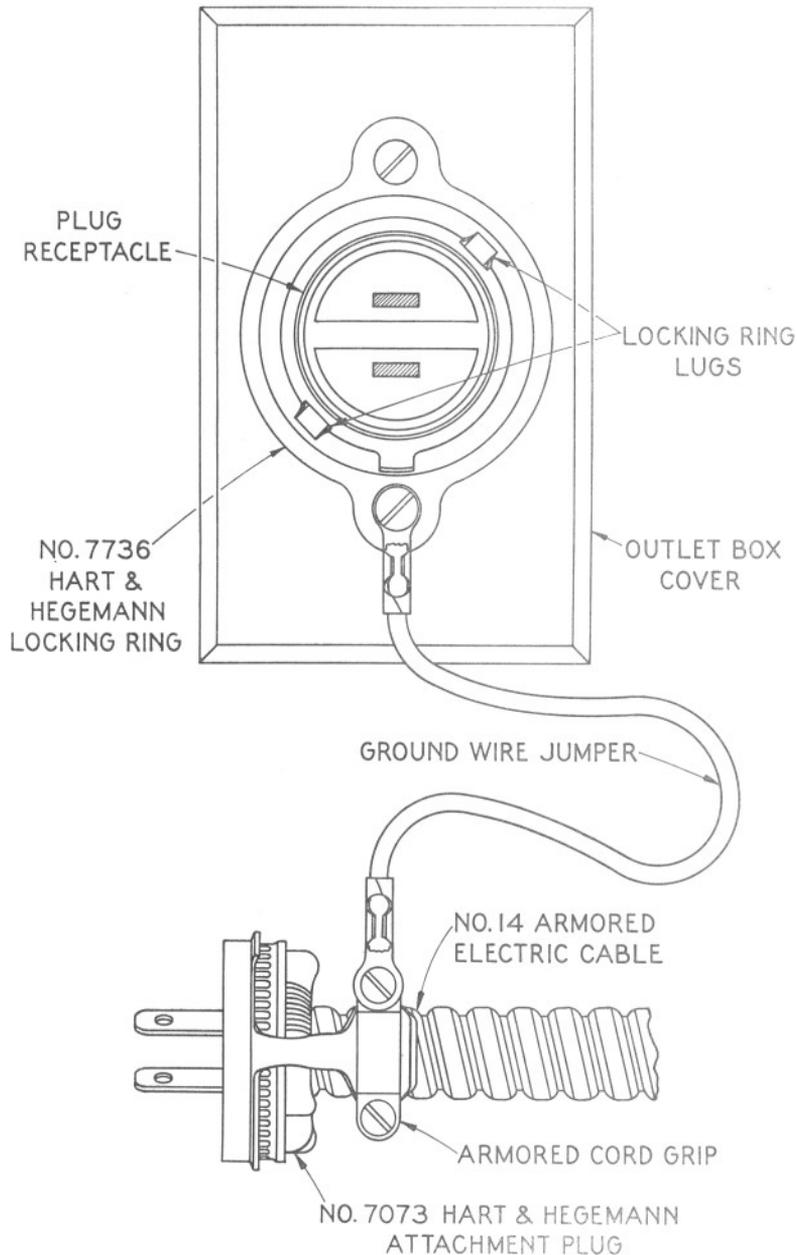
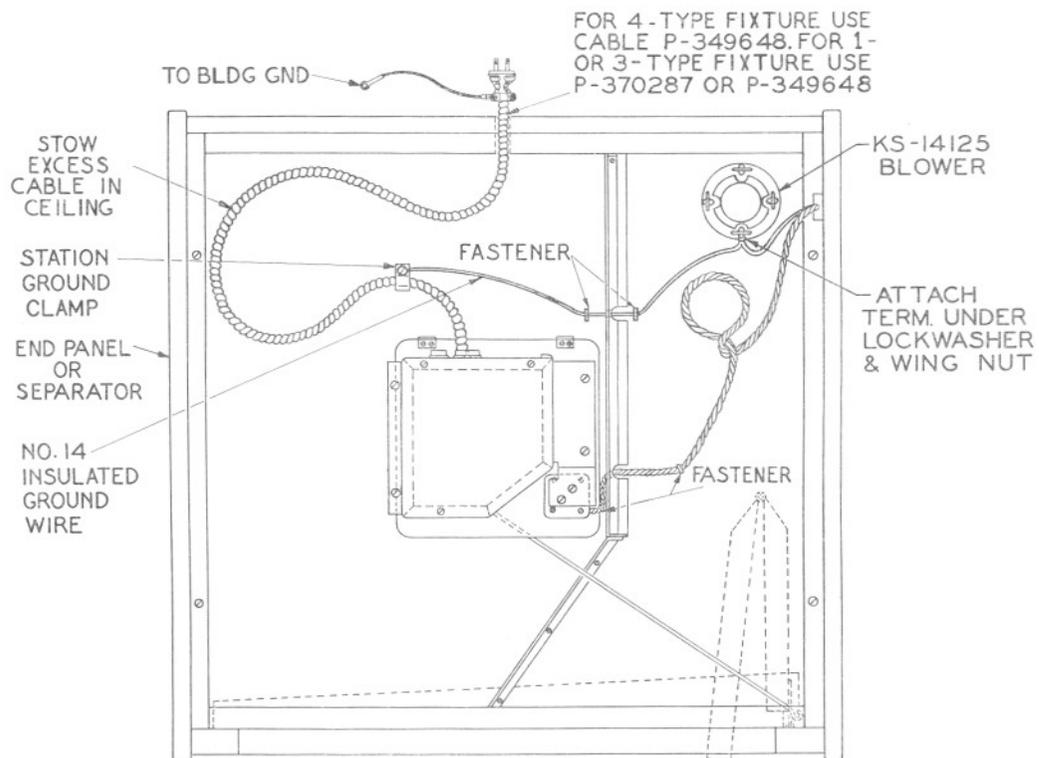
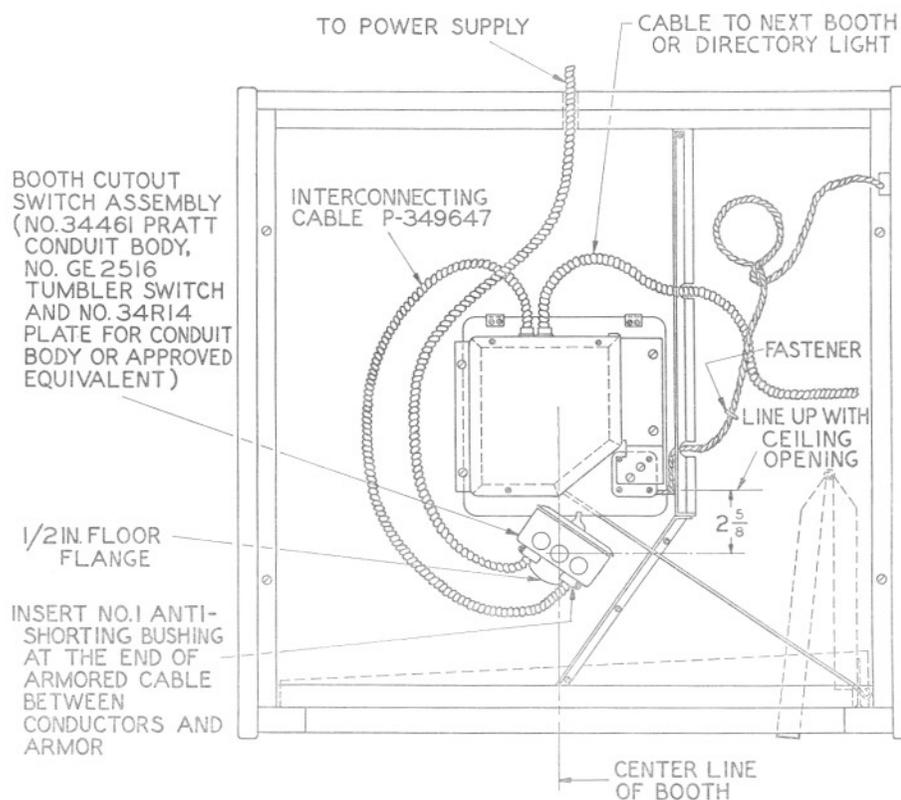

Fig. 7 – 2-wire Receptacle and Plug
Fig. 8 — Typical 2-wire Cable Arrangement
Fig. 9 — Typical Cutout Switch Installation with 4-type Light Fixture
5.14, Figure 7, 5.15, 5.16, Figure 8, and Figure 9 Delete.
5.09 A parallel blade, single not duplex, flush-type receptacle for 2-wire attachment plugs should be provided. Grounding is accomplished by terminating the ground wire jumper attached to the armor of the cable under one of the attachment screws of the locking ring as shown in Fig. 7.
5.10 Connection between the 2-wire receptacle and the booth lighting equipment is made with a 2-conductor armored flexible cable, the plug end of which is secured in the receptacle by means of a locking ring and locking-type plug as shown in Figs. 7 and 8.
booth through opened light fixture (Fig. 9).